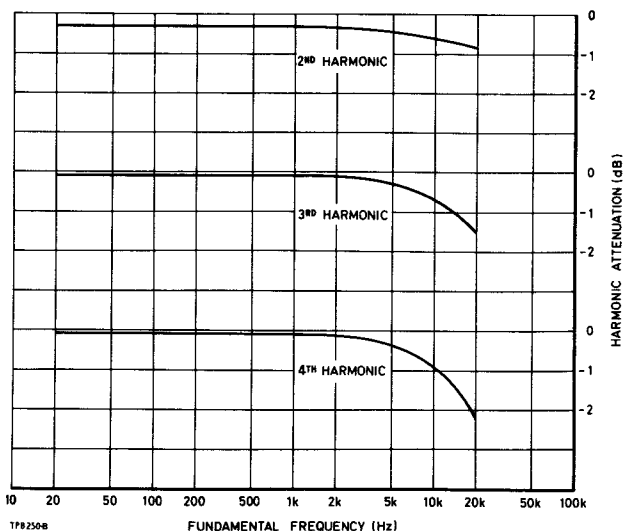
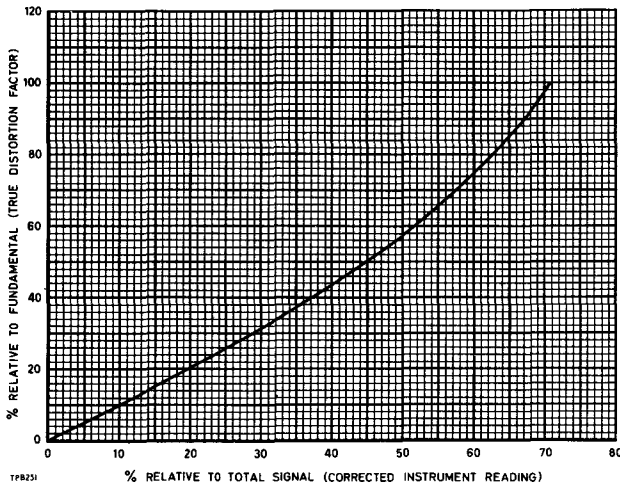

Fig. 2.9 Attenuation of harmonics (100 kHz bandwidth)
Fig. 2.12 Distortion formula conversion
Makes the reading low - see Fig. 2.9. The upper-frequency skirt of the fundamental rejection filter causes a slight attenuation of the lower order harmonics. Harmonics are also attenuated as their frequency approaches the 100 kHz or 20 kHz bandwidth limit; this is naturally more likely to affect the higher order harmonics.
As mentioned in Sect. 2.2 the distortion factor meter measures distortion relative to total signal rather than relative to fundamental. Below 10% distortion the discrepancy is negligible but it becomes large at high distortion. Conversion from indicated to true distortion factor can be made by means of Fig. 2.12.
- (2) Fig. 2.9 shows reading is low by a further 0.3 dB. Therefore, partially corrected reading = -11 to -10.8 dB (= 28 to 28.8%).
- (3) Error due to instrument residual content, i.e., an additional uncertainty of $\pm 0.025\%$ distortion, is negligible.
- (4) Metering error = $\pm 2\%$ of 30% (full-scale) $\pm 1\%$ of 28% = $\pm 0.88\%$, say $\pm 0.9\%$ distortion. Therefore, final corrected reading = 27.1 to 29.7%.
- (5) Formula conversion. The final corrected reading in terms of true distortion factor (relative to fundamental) is given by Fig. 2.12 as 28.5 to 31%.